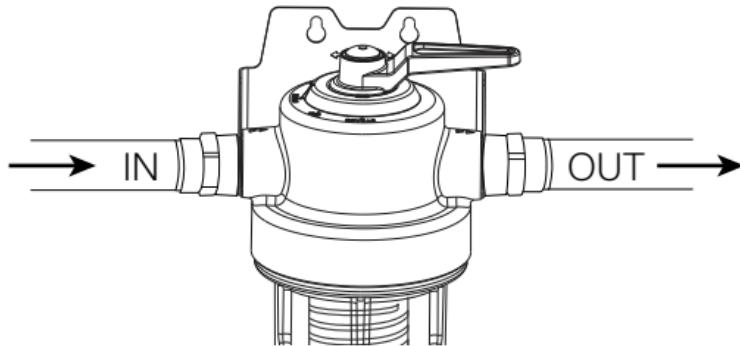

Figure 5
10. Turn filter head valve to “FILTER” mode (see Figure 5) and slowly turn on main water supply and check for leaks. Run water for 5 minutes with an open faucet to flush out air.